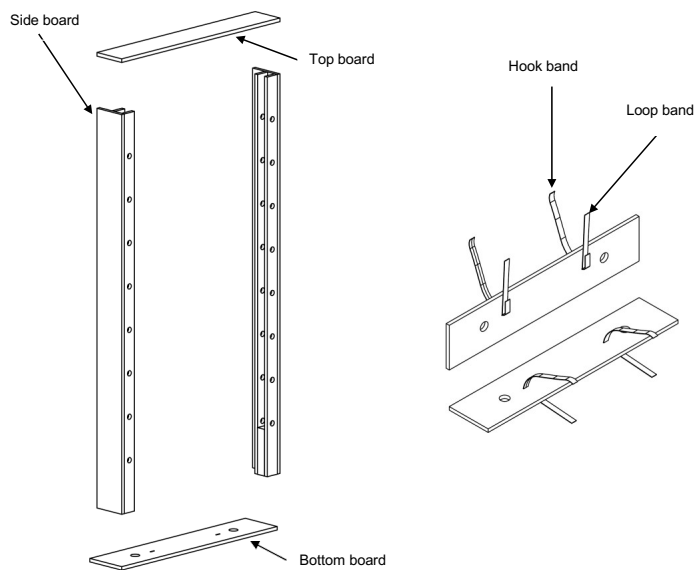

Figure 3: Assembling the frame and attaching the hook-and-loop bands
The first task is to assemble the frame. Start by stapling the hook bands (6) with the hooks facing upwards to the underside of the bottom board in the recesses provided. Then staple the loop bands (7) to the underside of the bottom board, pulling them through the designated holes (see figure 3). You can now assemble the individual parts using the M5x80 Spax screws, as shown in figure 3. The holes for the screws have been pre-drilled.